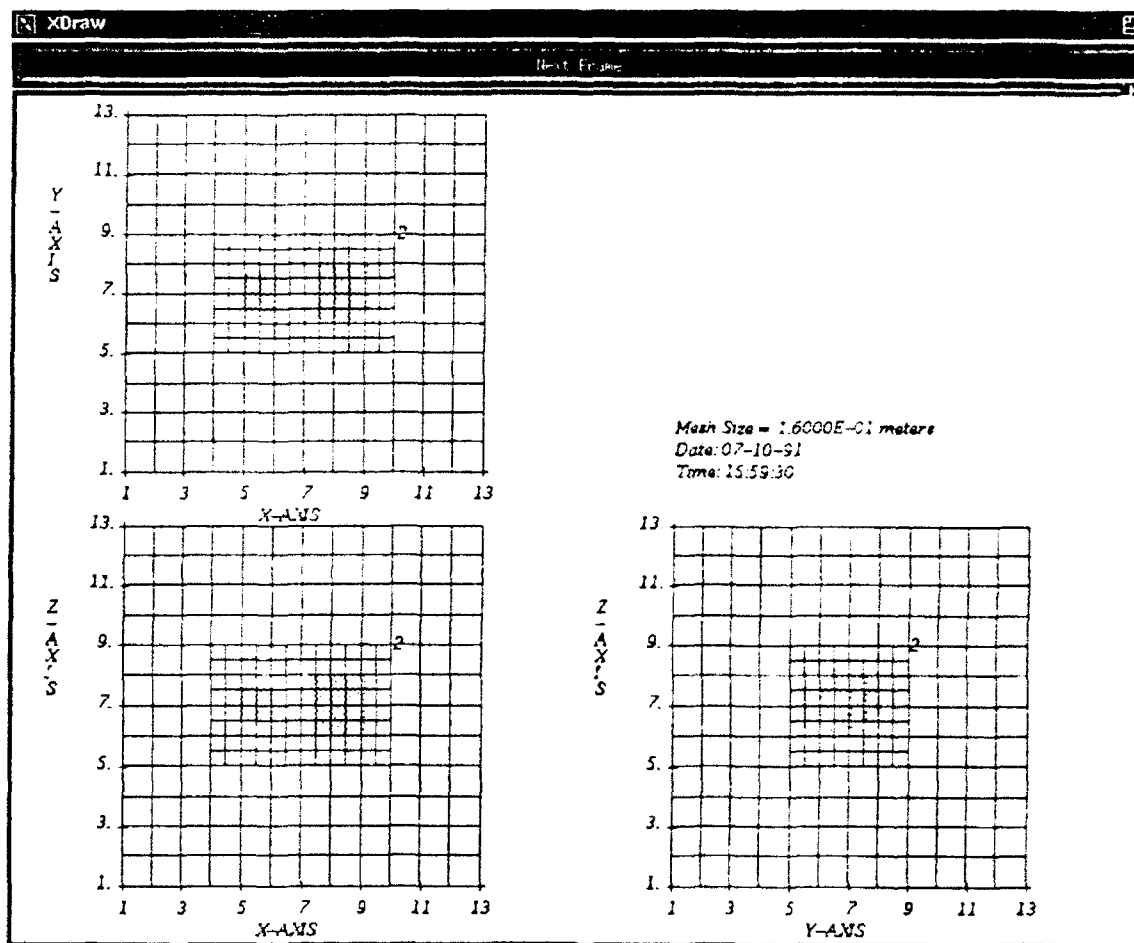

Figure 5.3 GridTool plot for the 2-Cubes sample problem.
7. Choose the "Plot" option from the pull-down menu. Using the default parameters, toggle "PLOTTER" to your favorite plot- reader. Make and show the plot, which appears as in figure 5.3.